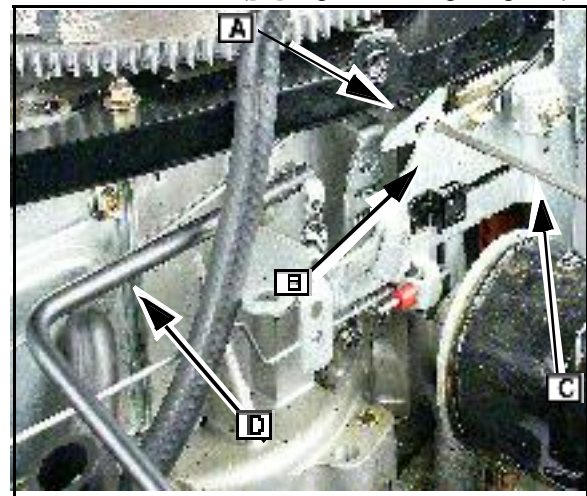
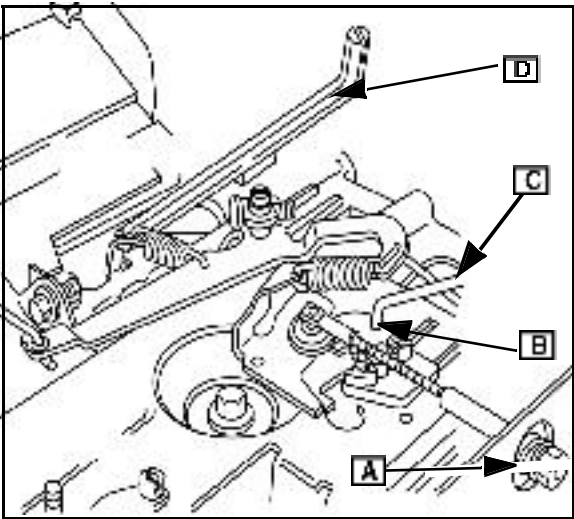

Fig. 33
Fig. 35
3. Align holes in the governor control lever gear (A) and governor control plate (B) Fig. 33 through Fig. 35) Insert 0.125 in. (3.2 mm) diameter rod (C).
4. Using tang bender tool (D), bend governed idle speed tang to obtain **1400 RPM**.
5. Remove rod ([C] Fig. 33 through Fig. 35).
2. Turn speed regulator nut (A) counterclockwise (CCW) to align idle speed holes (B) in governor control lever gear with governor control plate.
3. Insert 0.125 in. (3.2 mm) diameter rod ([C] Fig. 35).
4. Using tang bender tool ([D] Fig. 35), bend governed idle spring tab to obtain **1400 RPM**.